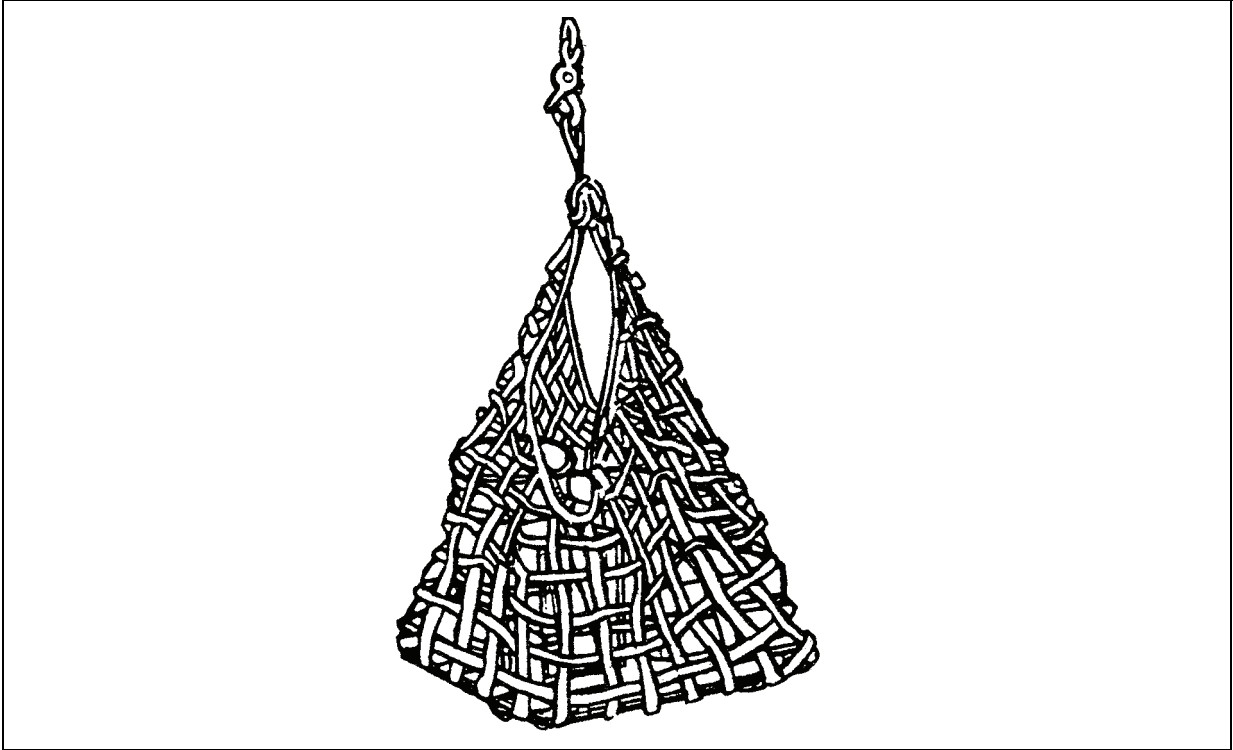

Figure 9-3. Nylon Cargo Net, Mk106 Mod 0 Cargo Pallet Net, and Becket
- **Cargo Nets.** Most VERTREP cargo is moved in nylon cargo nets made of 1 1/2-inch wide nylon webbing (Figure 9-3). Overall net size is 12 feet by 12 feet or 14 feet by 14 feet. Oval metal rings on each of the four corners are used to lift the net. Rough handling, such as dragging, causes extensive damage to nylon webbing and should be avoided.